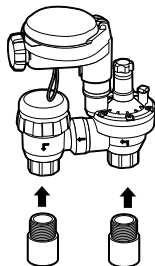

Figure A1
3. Install the anti-siphon valve directly to PVC pipe using 3/4 in. PVC male adapters (Figure A1 and A2) or use 3/4 in. schedule 80 nipple. The arrow on valve body indicates direction of water flow.